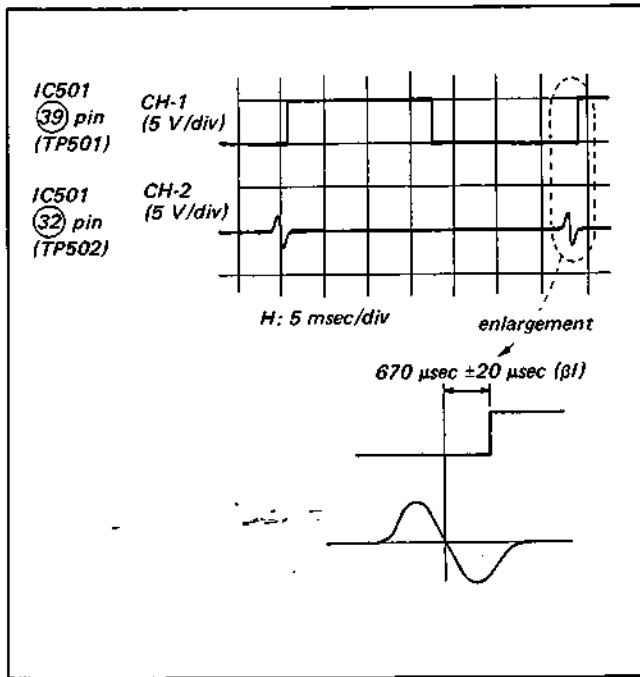

Fig. 5-7. RF switching position adjustment (1)
- (1) Connect CH-2 to IC501 pin ⑳ (TP502) and adjust to $670 \mu\text{sec} \pm 20 \mu\text{sec}$ with RV501. (β I switching pulse A) (Refer to Fig. 5-7)